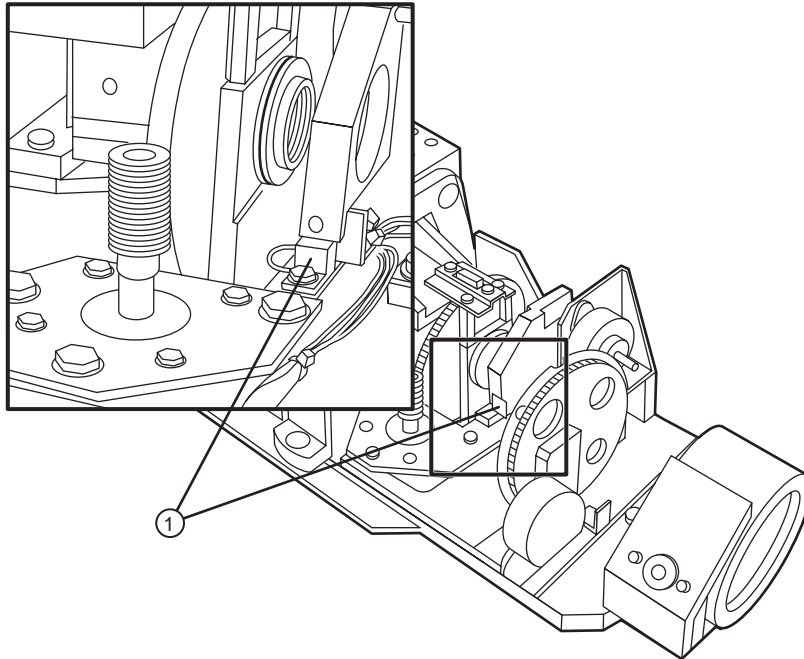

Figure 4-39 Focus sensor location.
4. Remove the hex screw securing the focus sensor to the bracket. Refer to Figure 4-39.